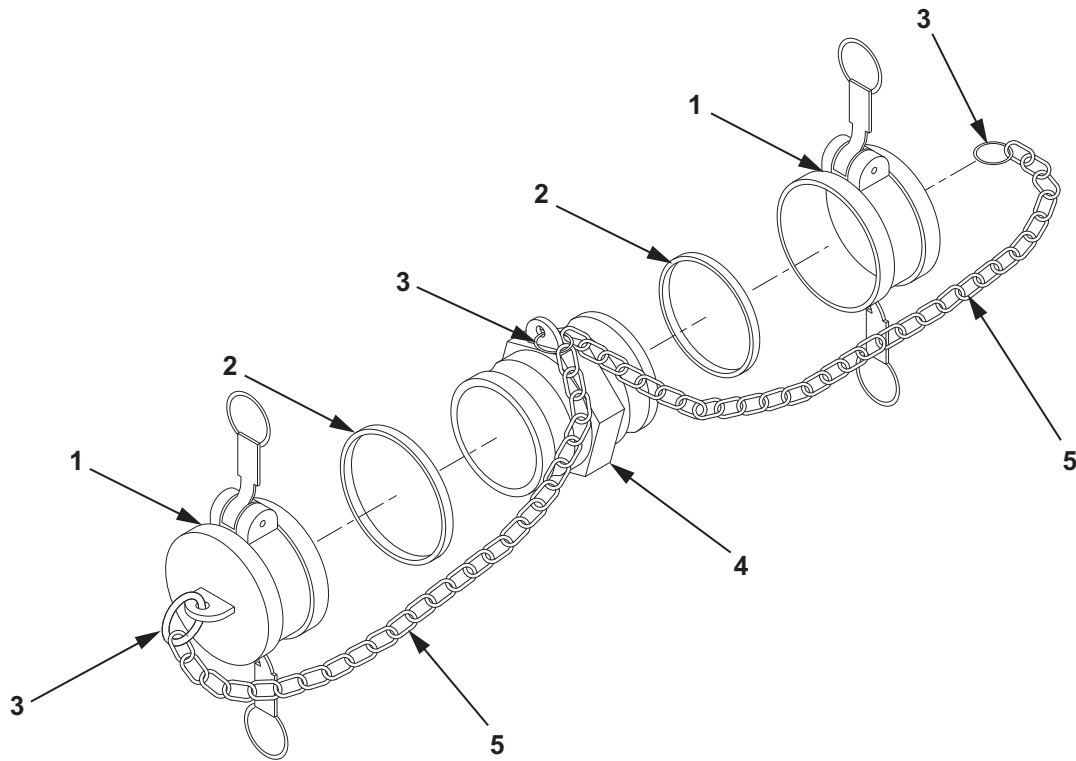

Figure 1. 4 In. Double Male Adapter Disassembly.
1. Remove dust caps (Figure 1, Item 1) from adapter assembly (Figure 1, Item 2).
2. Remove two gaskets (Figure 1, Item 2) from two dust caps (Figure 1, Item 1). Discard gaskets (Figure 1, Item 2).
3. Remove four split rings (Figure 1, Item 4) from two dust caps (Figure 1, Item 1) and adapter assembly (Figure 1, Item 4).
4. Remove split rings (Figure 1, Item 3) from two chains (Figure 1, Item 5).